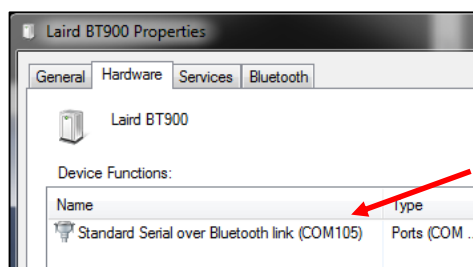

Figure 22: Outgoing SPP COM port number
3. The displayed COM port number is the outgoing SPP COM port. This COM port is used in UwTerminal to make the outgoing SPP connection. (Figure 22)